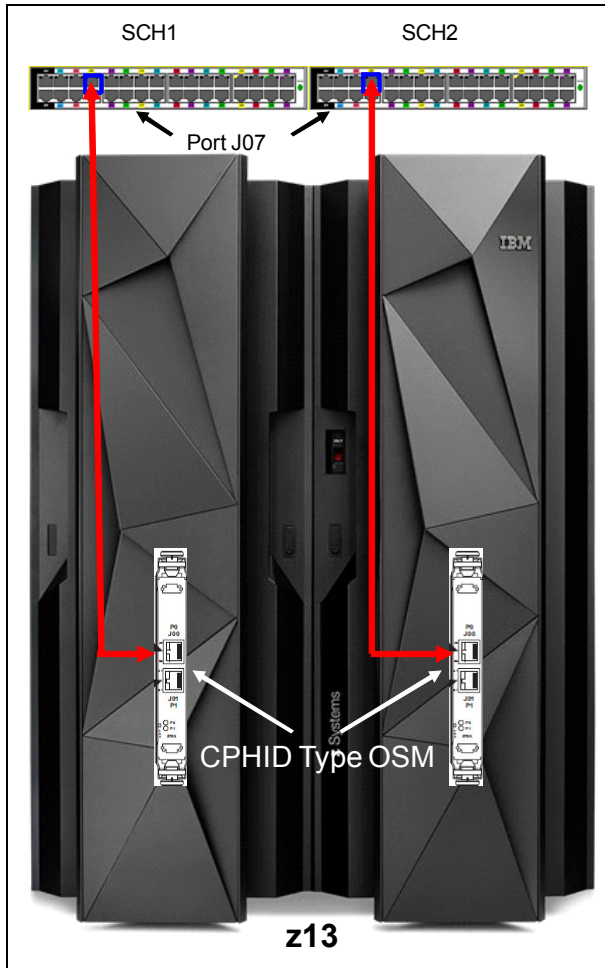

Figure 12-10 OSA-Express5S 1000BASE-T features connecting to the SCHs
- ▶ If FC 0025 is added to an operational IBM z13 footprint, take the OSM defined CHPIDs offline before you install the cables. The CHPIDs can then be brought online. This configuration is shown in Figure 12-10 on page 607.